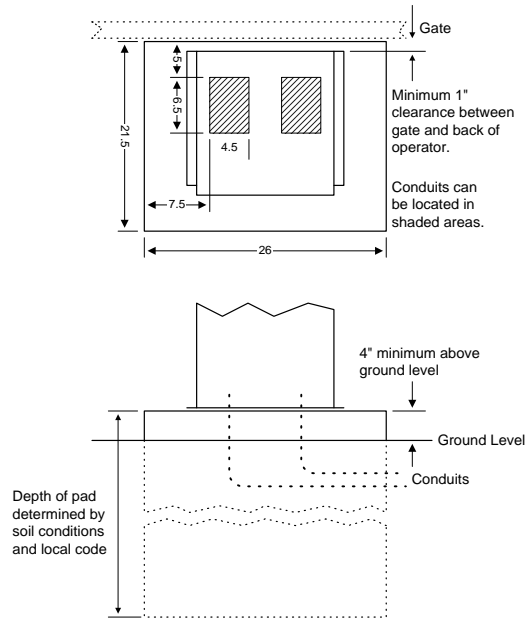

Figure 6
1. Construct a form for the mounting pad according to the specifications shown in figure 6. Be sure to level the top edge of the form and that the top of the form is a minimum of four (4) inches above ground level. We suggest that you contact the local building department to determine the required depth of the pad since soil conditions and code requirements vary from city to city.
2. Set conduits, reinforcing bars and/or wire mesh if required. The number of conduits is determined by the application requirements. We suggest using a minimum of four (4) conduits. 1-High voltage power lines; 2-Low voltage control lines; 3-Loop lead-in wires (open loop); 4-Loop lead-in wires (reverse loops). **See SECTION 2.** Set additional conduits as required for your application. NOTE: If conduits are not set in the pad, they can be routed to a J box where connections to the operator can be made after it is installed. There are three (3) ½-inch knockout on each side of the operator for this purpose.